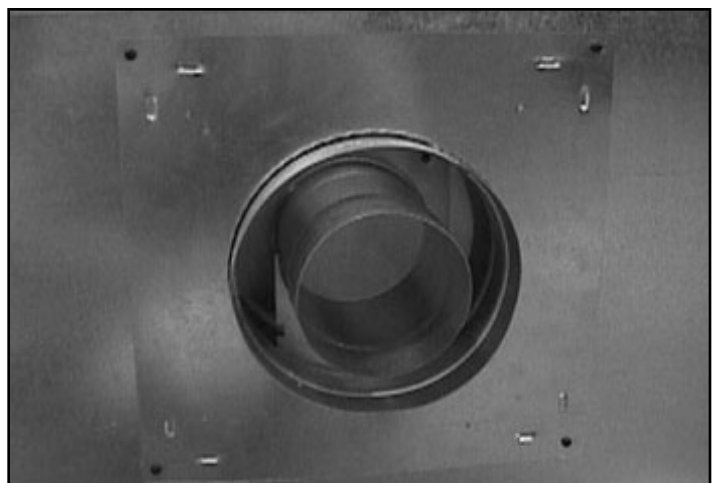

Figure 7.11 Cover Plate Placed on Rear of Appliance
- Locate the cover plate removed in the second step. Place plate around rear vented collars and replace four screws to hold plate in place. See Figure 7.11.